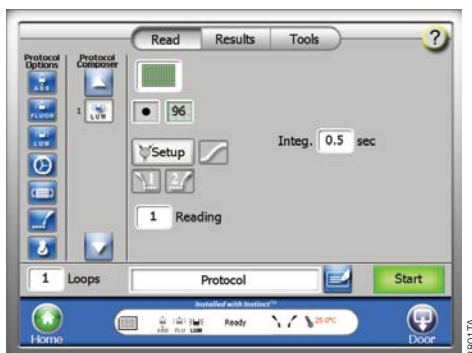

Figure 32. Defining a Luminescent Plate read.
1. From the Home screen, touch the “Instrument Control” button, then the “Read” button (Figure 32).